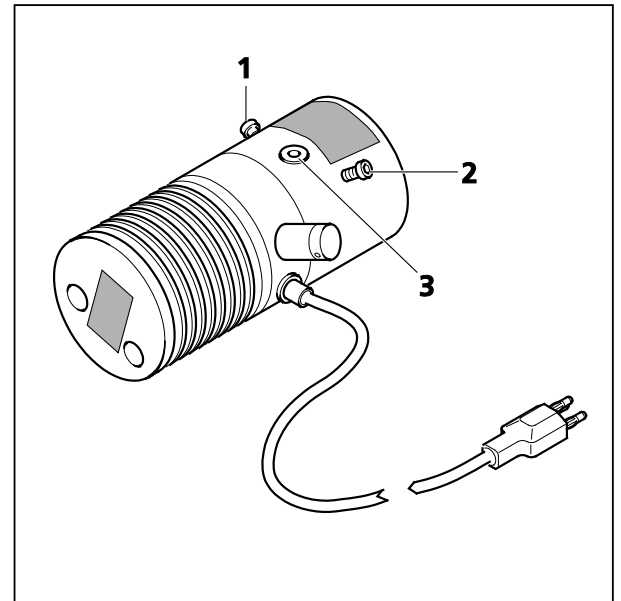

Fig. 5 Adjusting the VIS-LED
- Remove the eyepiece and center the illumination image within the pupil image using the adjusting screws (Fig. 5/1 and 2).
- Optimize homogeneous illumination of the pupil image using the focusing screw (Fig. 5/3).